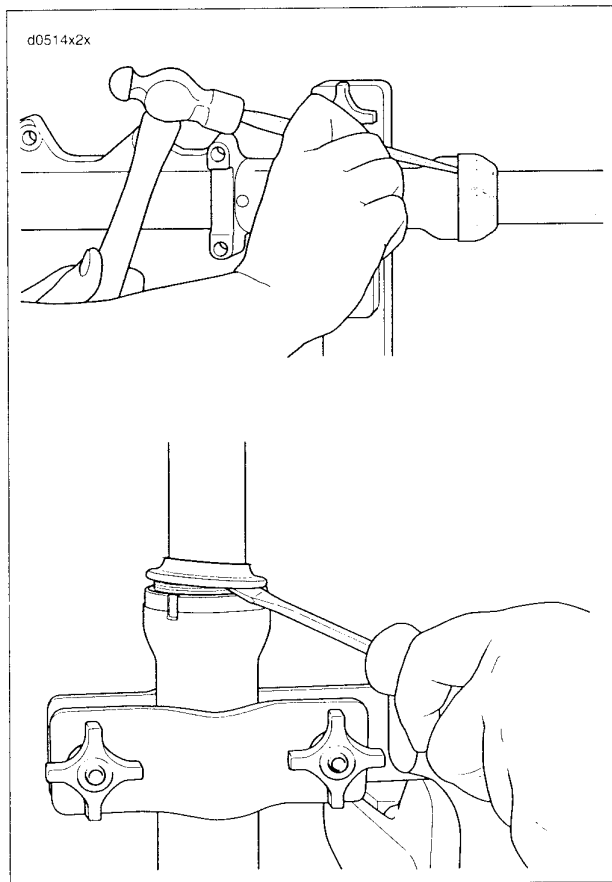

Figure 2-93. Fork Cover and Seal
- See Figure 2-93. Remove the cover from the slider. Remove seal and stopper ring.